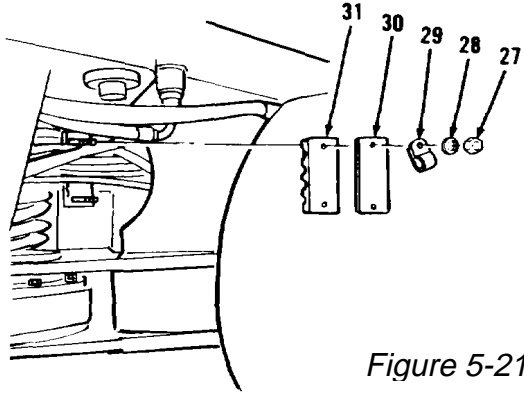
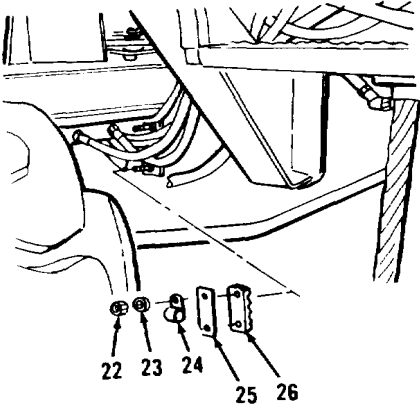
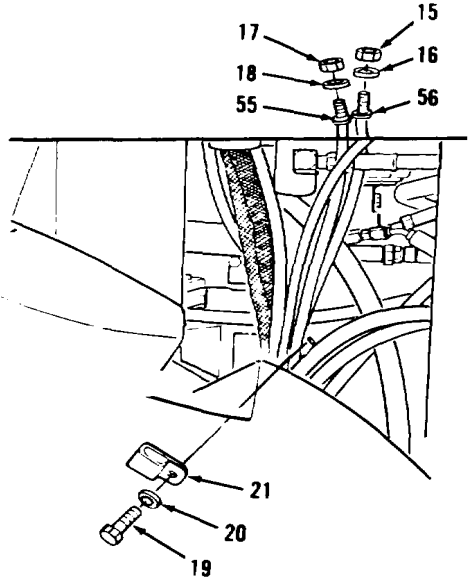

Figure 5-21.
Figure 5-20.
Figure 5-19.
14. Connect cable (54) in transmission modulation control housing. Refer to paragraph 8-5.
15. Install clamp (31), plate (30) and clip (29, Figure 5-21) under right, front side of engine compartment.
16. Install two washers (28) and nuts (27).
17. Install clamp (26), plate (25) and clip (24, Figure 5-20) under right side of cab.
18. Install two washers (23) and nuts (22).
19. Connect cables (56 and 55, Figure 5-19) in transmission control housing.
20. Install clip (21), washer (20) and bolt (19).
21. Install nut (18) and lockwasher (17).
22. Install nut (16) and lockwasher (15).